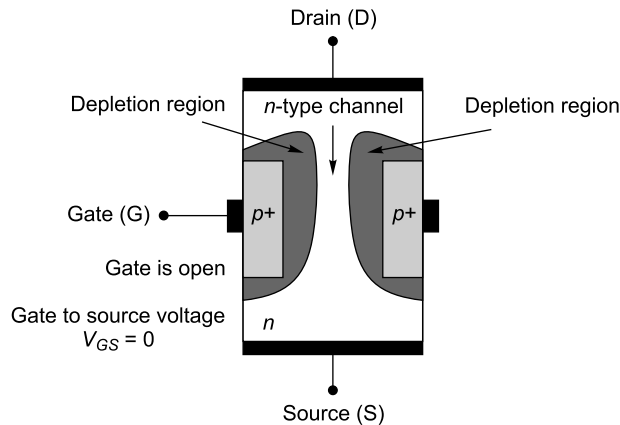

Fig. 1.94
14. In a biased JFET, the shape of the channel is shown in Fig. 1.94